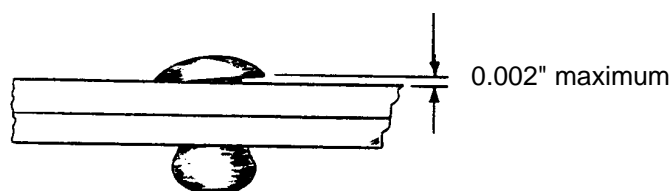

Figure 7 - Maximum Allowable Tilt Under Installed Rivet Head
- 6.3 The tilt under the head of an installed rivet (see Figure 7) must not exceed 0.002".